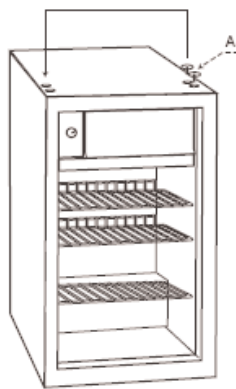

Fig. 1
- 6) Remove the plastic caps from the right side of the cabinet and reinstall on the left side of the cabinet (the previous pin location) (Fig. 1).